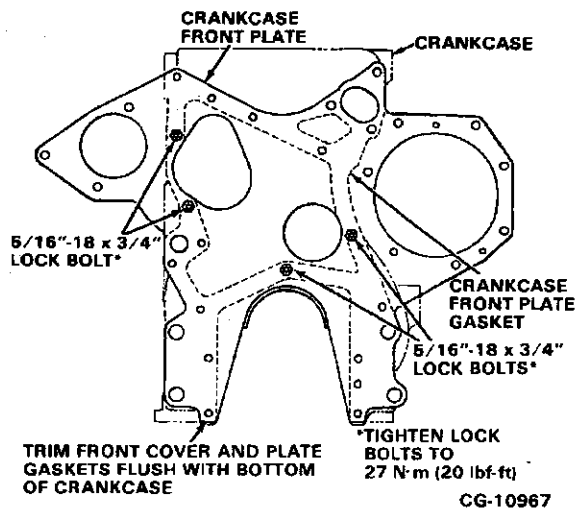

Figure 8.17. Front Plate and Front Plate Gasket Installation to Crankcase
- b. Mount the front plate to the crankcase using four lock bolts. Tighten the bolts to the specified "SPECIAL TORQUE". Refer to Figure 8.17.